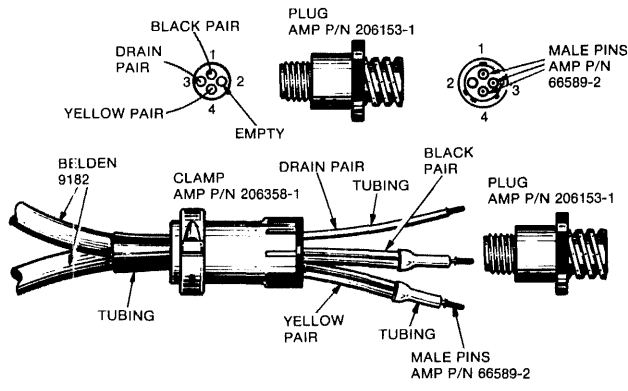

Figure 3-3 DECdataway Controller Connector
3.2.4.3.1 Connection to the Controller (refer to Figure 3-3 and Table 3-5) – Perform the following steps when connecting the DECdataway cable to a controller.
10. Insert the three male pins into the controller plug (AMP P/N 206153-1), using the insertion tool (AMP P/N 91002-1). Observe color coding as follows: black pair to 1, yellow pair to 4, and drain pair to 3. Pin 2 is not used (see Figure 3-3).